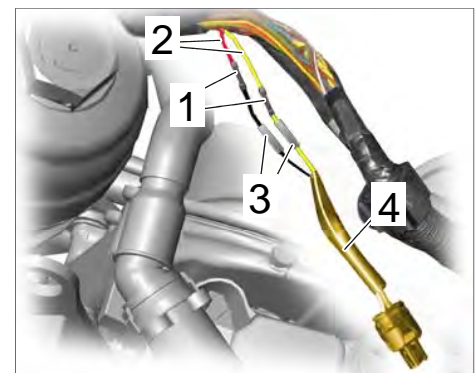

Figure 9
4.4 Crimp insulated cable connection ⇒ *Figure 9 -item 1-* using the **crimping pliers** from the **Nr.155-1 Pos.1 - cable repair kit** to the main wire harness wires ⇒ *Figure 9 -item 2-*.
4.5 Slide the sleeve ⇒ *Figure 9 -item 4-* you removed from the old wire harness onto the wires of the new connector.
4.6 Slide shrink-fit hoses ⇒ *Figure 9 -item 3-* onto the connector wires.
4.7 Crimp connector wires to the insulated cable connections ⇒ *Figure 9 -item 1-* using **crimping pliers**. Check the crimp connection carefully.
4.8 Slide shrink-fit hoses ⇒ *Figure 9 -item 3-* over the crimp connection and carefully shrink them using the **hot-air blower and attached reflector**.